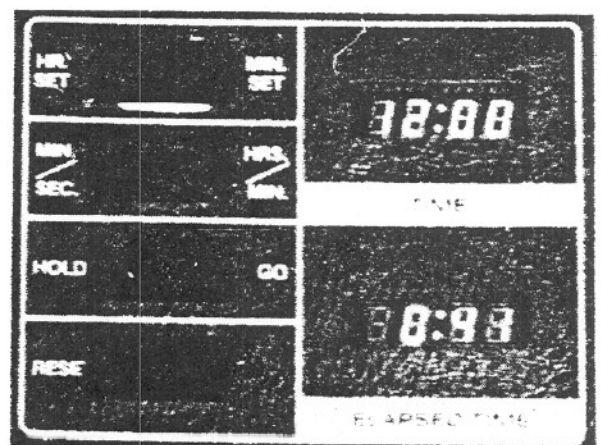

Figure 2-3. Digital Clock/Elapsed Time Display
**DIGITAL CLOCK/ELAPSED TIMER** — The digital clock and elapsed time digital readout is located in the center of the dash, figure 2-3. Four controls to the left of the display set clock timing. To set **TIME DISPLAY**, press **HR.SET/MIN. SET** switch to **HR.SET** position and hold until correct hour is displayed; repeat with switch in **MIN.SET** position until correct minutes are displayed.